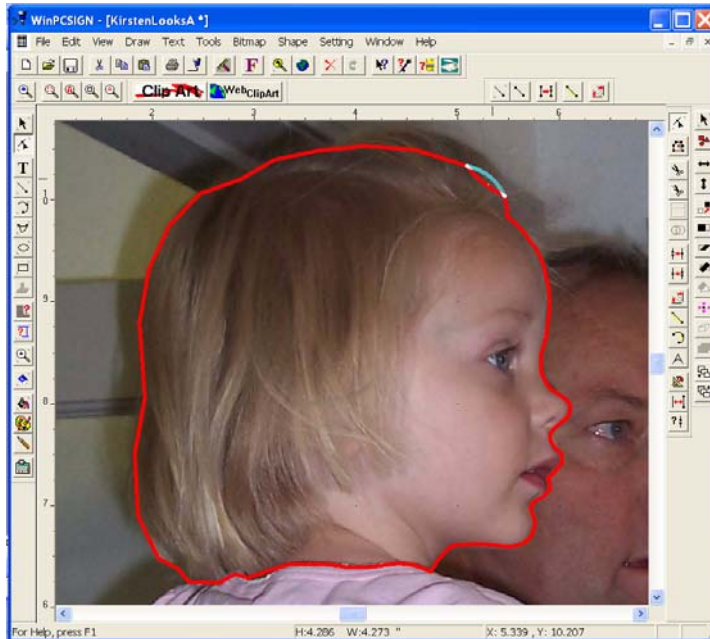

Figure 169
- 1 Click the **Move Point** tool and begin to shape the lines to fit the image. See figure 169.